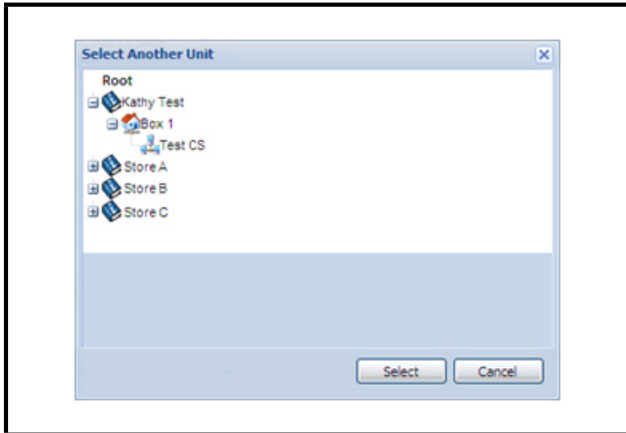

Figure 5-49 - Select Another Unit Pop-up Window
- **Restore from another Unit's backup Image** - Restores the backup file from another controller to the current unit. To restore, click the **Select another unit to restore from** button. A *Select Another Unit* pop-up window (Figure 5-49) opens and displays the navigation tree. Choose the unit where the current unit will restore from. Expand the navigation tree down to the Unit level, select the radio button of the Unit, and then click **Select**. After configuring